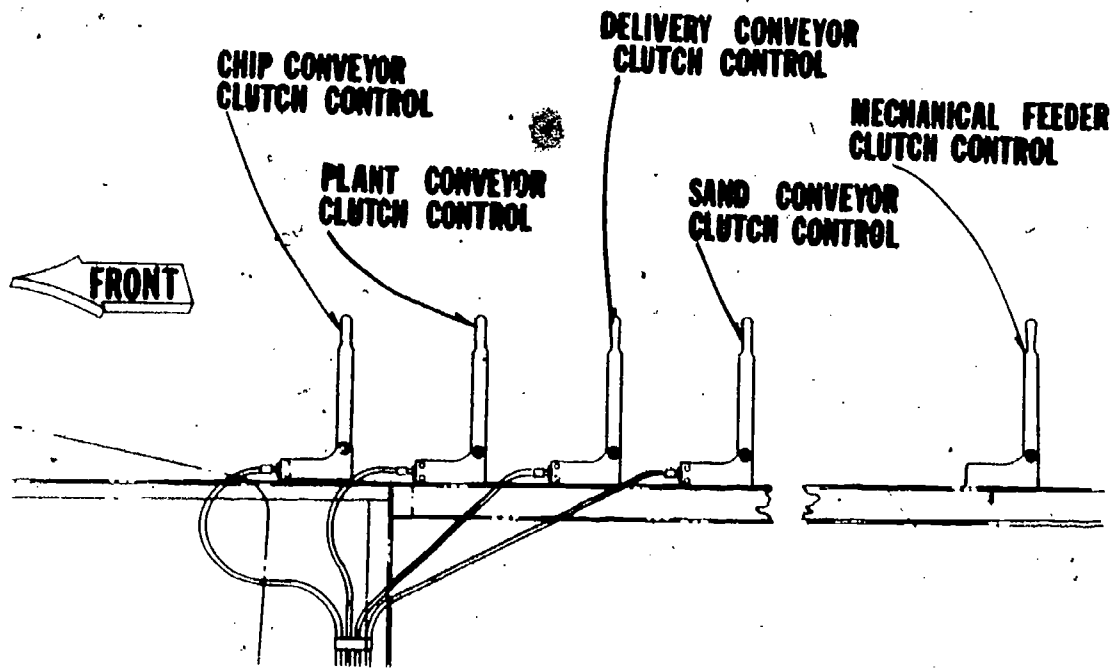

Fig 6-15. Clutch controls.
- (1) Clutch controls (fig 6-15).